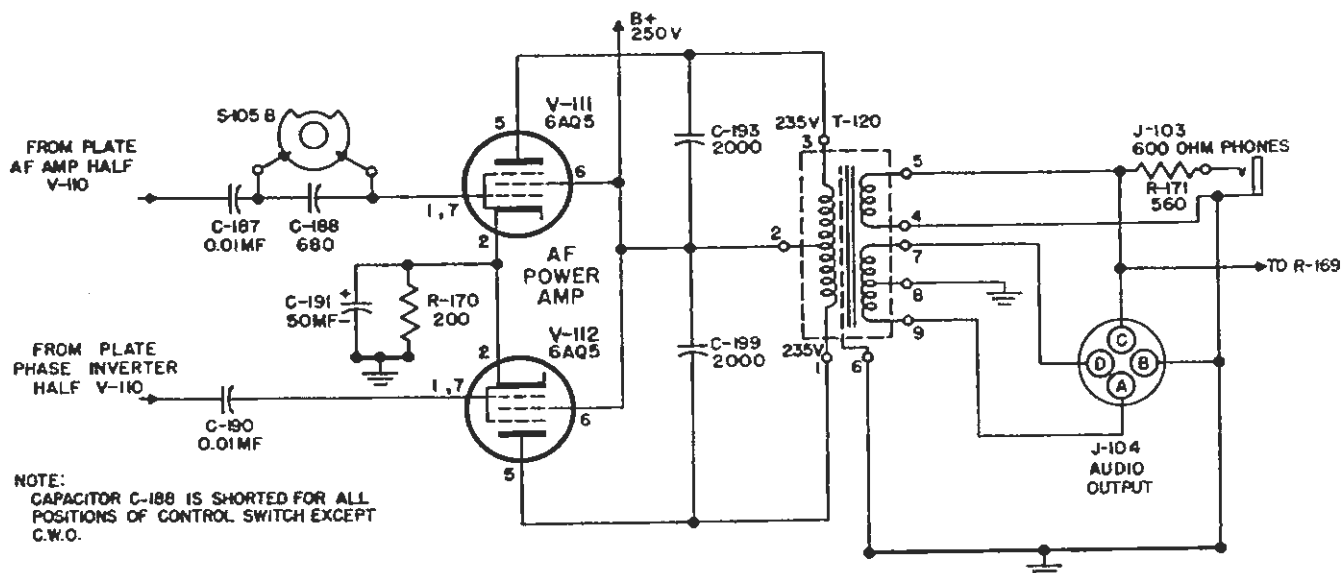

Figure 2-12. Audio Amplifier—Audio Output.
(2) AF POWER AMPLIFIER AND OUTPUT (V-111, V-112). (See figure 2-12.)